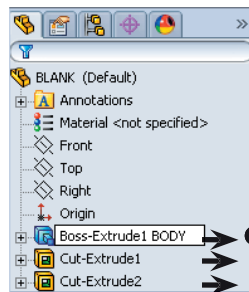
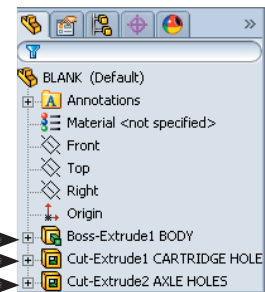

Fig. 17
Fig. 18
Step 2. **Rename Features** in the Feature Manager. To rename, slowly click twice over the Feature name and change name, **Fig. 17 and Fig. 18**. (F2)